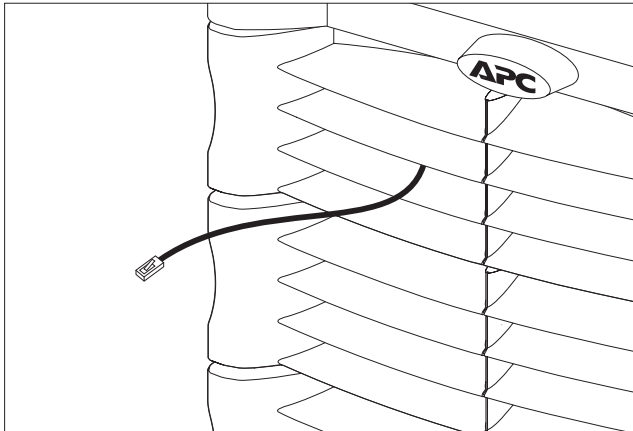

Fig 5-10 PowerView Cable Through Cover Grill
2. Feed the end of the RJ45 cable through the center slot of the top cover grill, and replace the cover grill onto the frame. See figure 5-10.